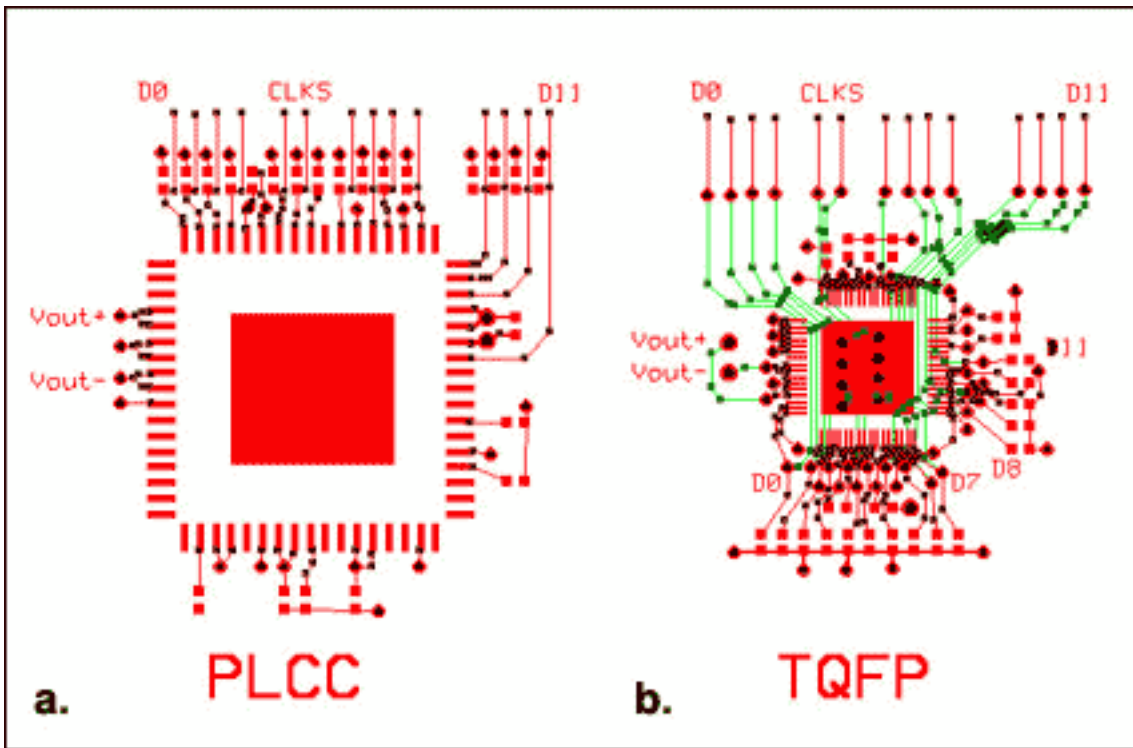

Figure 2. PCB layout supports old 68-pin PLCC package (a). PCB layout changes suggested, to fit the 64-pin TQFP pinout into an existing 68-pin PLCC outline (b).
**Figure 2** illustrates the old PLCC package (a) on the left, and the new TQFP package (b) on the right, both to the same scale. It becomes immediately apparent that the new TQFP package is much smaller than the old PLCC package. This reduction in package size allows ample room to execute the necessary PCB trace adjustments to align the new pinout to the old pinout. Although each individual layout will have its unique aspects, the general method described and illustrated in this application note can be applied to individual circumstances.
over- and under-shoot to less than 15%. For a rise time of 300ps, this suggests unmatched lines lengths of less than 1.5cm (0.6 inch). Both layouts illustrated in Figure 2 meet this requirement. All bypass capacitors, power and ground connections should be very short. Figures 2a and 2b depict trace lengths less than 2mm (0.08 inch). All these suggestions support optimizing the dynamic performance of the MAX555.